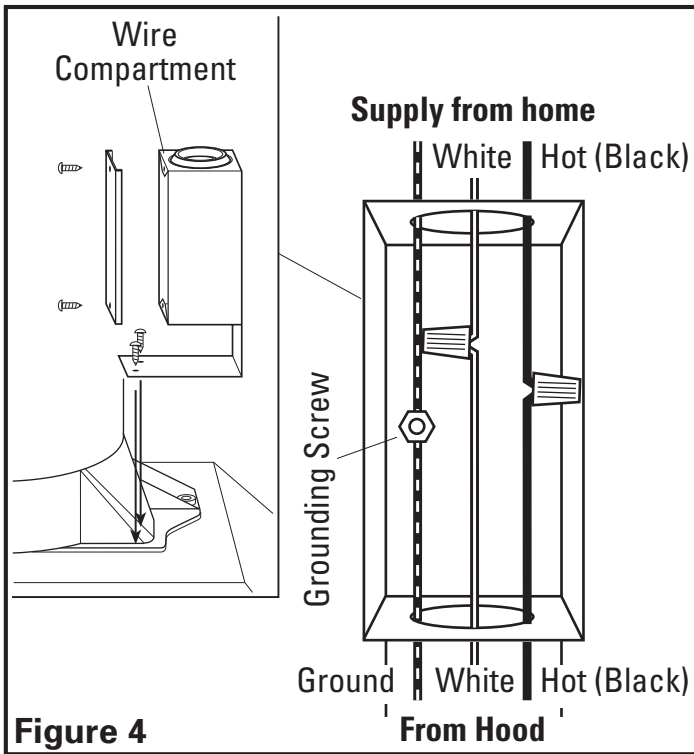

Figure 4
1. Attach the wire compartment to the power unit with two of the provided 3 x 11 mm screws. Remove the wire compartment cover and connect the white wire (on some models this wire will be brown) from the power unit to the white wire from the supply. Connect the black wire (on some models this wire will be blue) from the power unit to the black wire of the supply. Connect the ground wires from the home (green or bare) and the power unit (green/yellow) to the grounding screw in the wire compartment. Use approved methods for all connections (**Figure 4**).